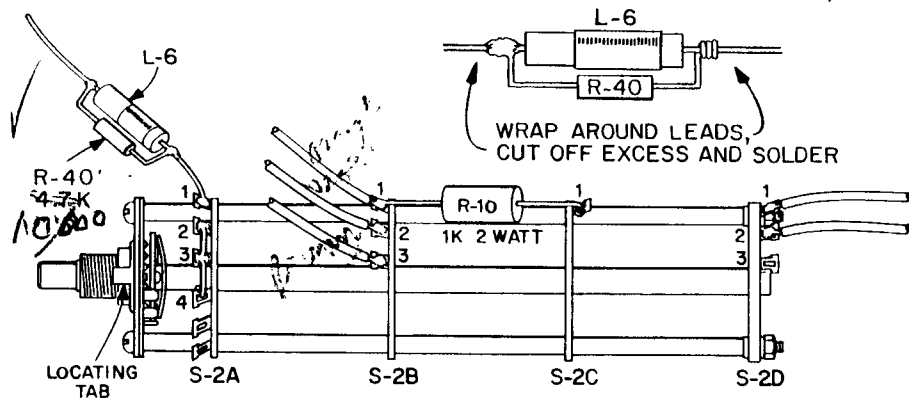

FIGURE 12. PREWIRING S-2
SEE FIGURE 12.
- ✓ S-2, the 4-wafer switch. Position the switch with the locating tab as shown in Figure 12.
- L-6, coil (marked with a violet dot) and R-40, 4.7K resistor (yellow, violet, red). Wrap the leads of R-40 around the leads of L-6 as close to the coil form as possible. Clip the excess and solder the leads of R-40 to those of L-6 as shown in Figure 12.
- L-7, coil (marked with a gray dot) and R-41, ¹⁰⁰⁰ resistor (~~yellow~~ ^{Br}). Solder R-41 across L-7 in the same manner R-40 was mounted to L-6. (See Figure 12). Solder one lead from L-7 to terminal 4 of S-2A (2 wires). Connect the other lead to terminal 1 of TS-9.